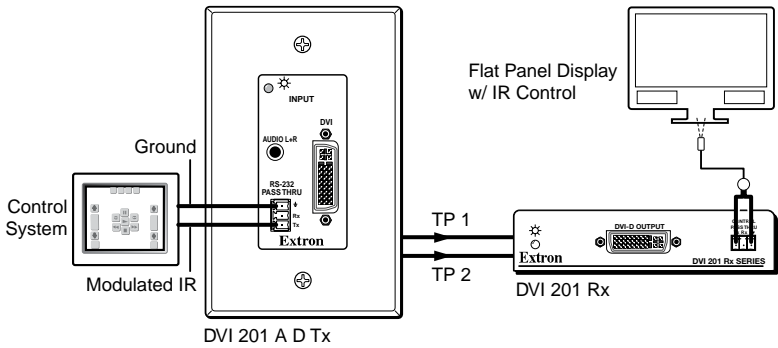

Figure 2-29 — Installation routing modulated IR
Figure 2-29 shows an installation in which the Tx/Rx pair sends a modulated infrared (IR) signal across the link. On the TX side, control system is connected to the Tx pin (the modulated IR signal) and the Gnd (signal ground) on the transmitter. An IR emitter is connected to the Tx and Gnd receiver output.